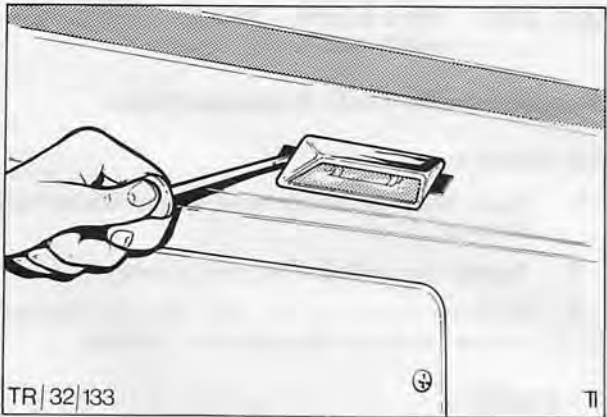

Fig. 32. Levering lamp from body
2. Disconnect bulb from back of lamp. Fig. 32.